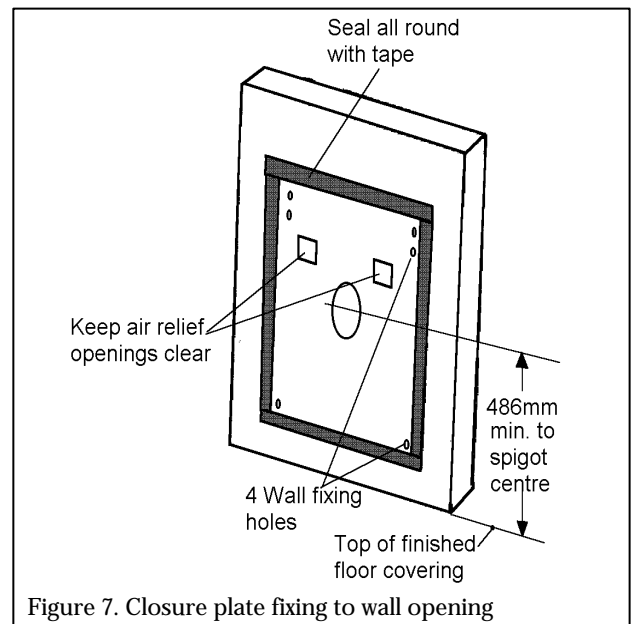

Figure 7. Closure plate fixing to wall opening
3.4.3. Wall mounting (Figure 7)